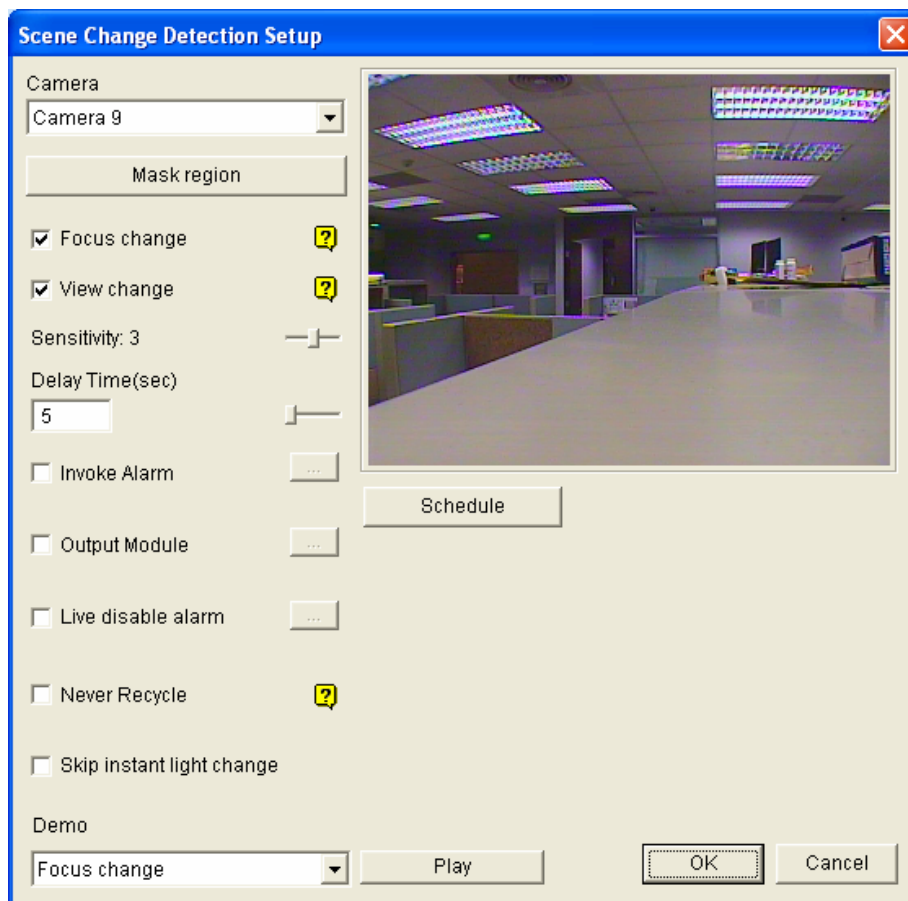

Figure 3-40 Scene Change Detection Setup
- **Live disable alarm:** Choose whether to invoke the warning message when a scene change is detected. Click the [...] button beside to display Figure 3-40.